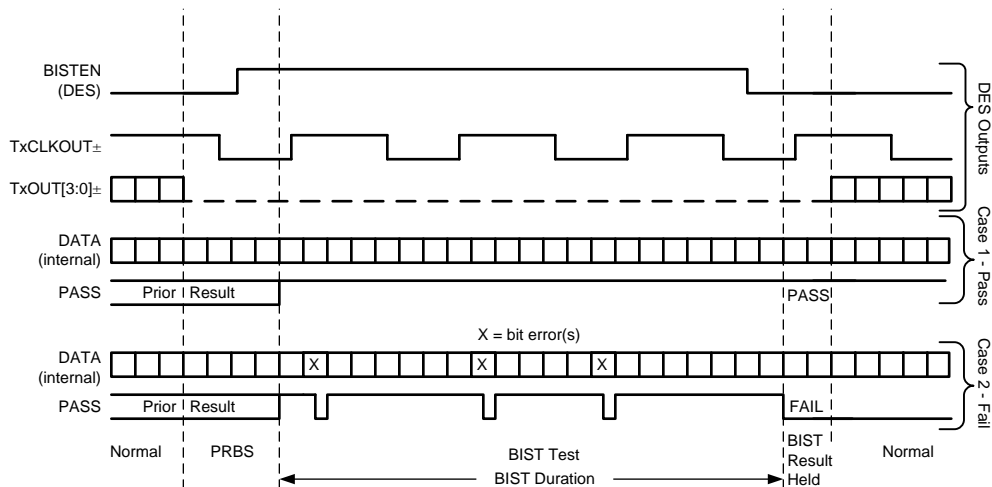

Figure 29. BIST Waveforms, in Conjunction With Deserializer Signals
**Step 4:** The link returns to normal operation after the deserializer BISTEN pin is low. Figure 29 shows the waveform diagram of a typical BIST test for two cases. Case 1 is error free, and Case 2 shows one with multiple errors. In most cases it is difficult to generate errors due to the robustness of the link (differential data transmission etc.), thus they may be introduced by greatly extending the cable length, faulting the interconnect medium, or reducing signal condition enhancements (Rx Equalization).